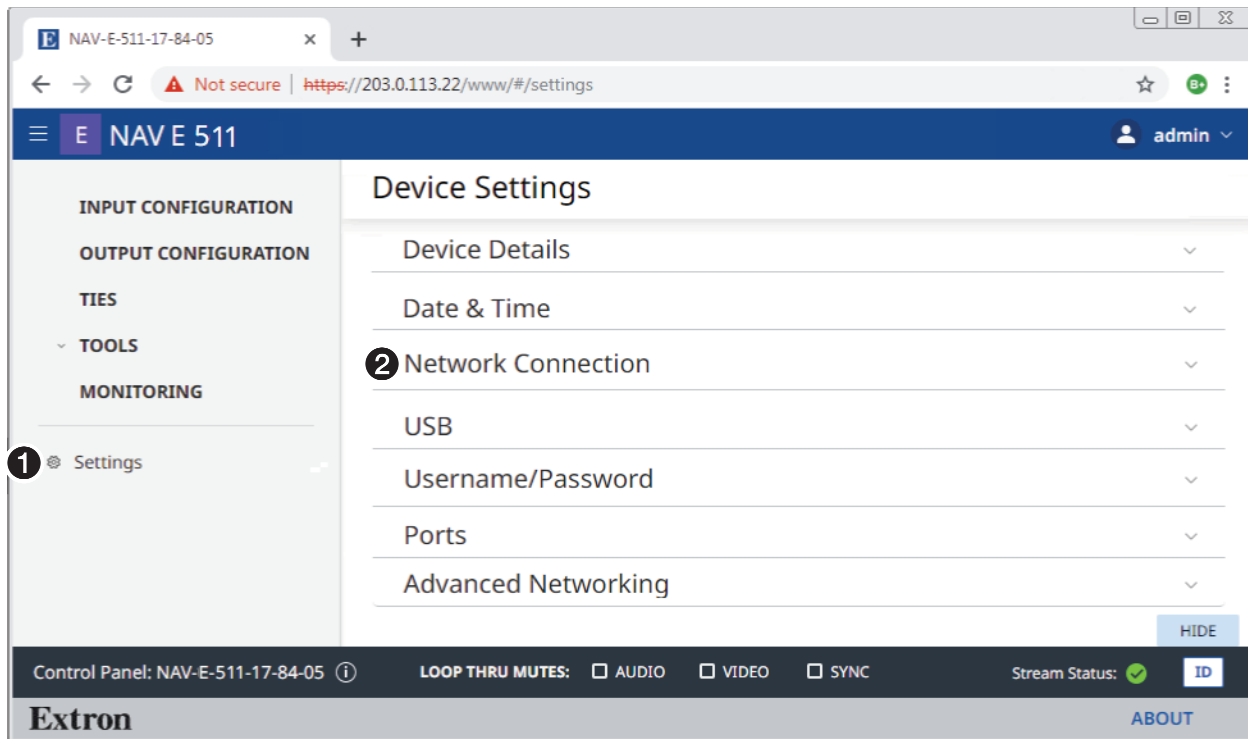
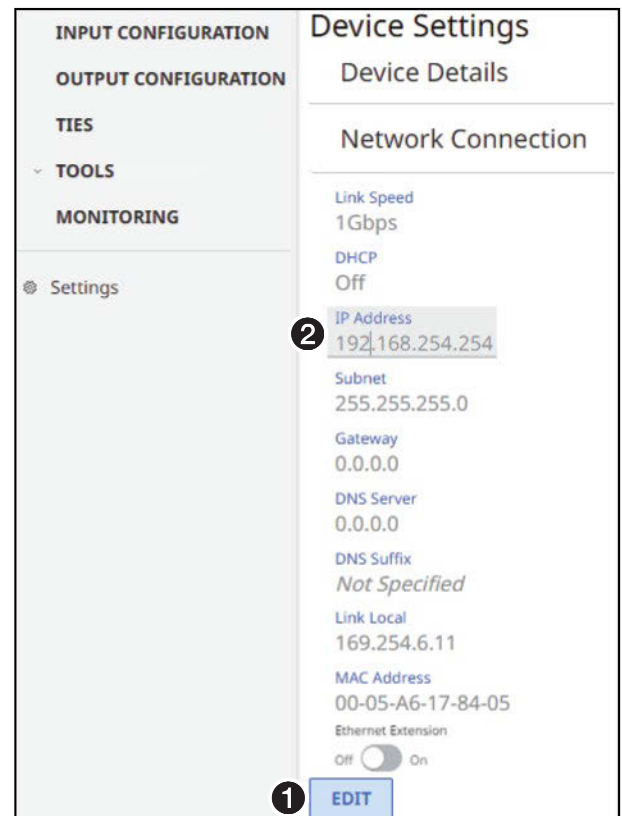

Figure 5. HTML Page
Figure 6. Network Connection Pane
6. Enter the **Username** (see figure 4, **1**) and **Password** (**2**) and click **Sign In** (**3**). The browser opens to the embedded web pages (see figure 5).
1. On the home page, click **Settings** (see figure 5, ①) and then **Network Connection** (②). The Network Connection pane opens (see figure 6), showing protected views of the network connection settings.
2. To change the settings, click **Edit** (see figure 6, ①). The Edit button changes to **Save**.
3. Click in the desired field (②) and edit it as necessary.